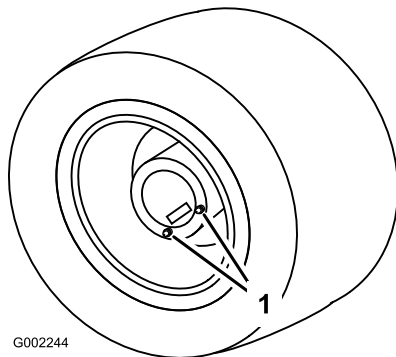

Figure 80
1. Position the sprayer on a level surface with the rear wheels positioned for draining (Figure 80).
3. Place a drain pan under the drain plugs and remove them from the wheel (Figure 80).